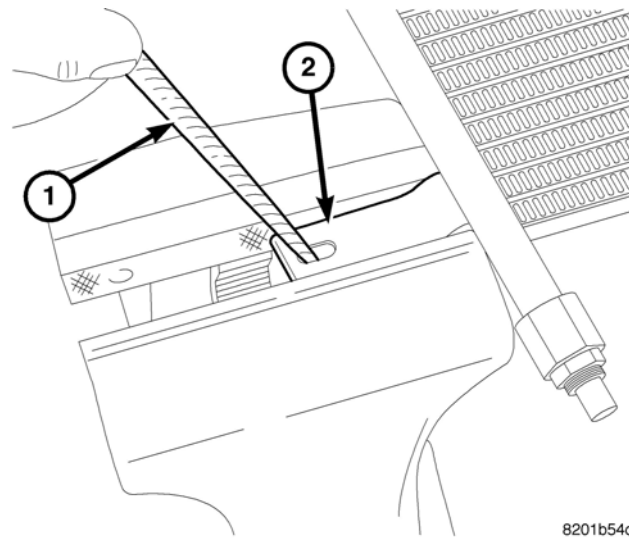

Fig. 8 ELONGATE RIGHT COOLER BRACKET HOLE
13. Clamp the right tab/bracket into a vise. Using a rat tail file, elongate the hole so that the hole is approximately $3/4$ inch (19 mm) long, (Fig. 8).